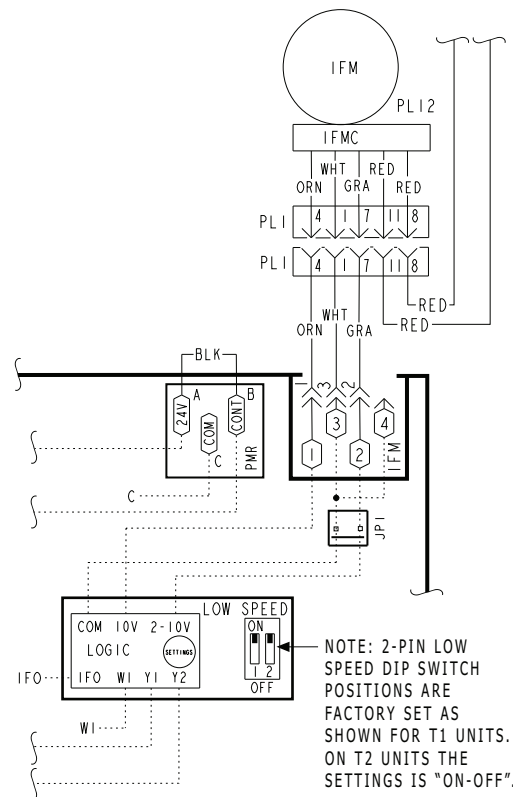

Fig. 10 — Supply Fan Control Wiring Diagram
8. Check for proper motor control voltage signal of 9.7 vdc to 10.3 vdc at IFM-1 and IFM-3 on Unit Control Board (UCB). (See Fig. 10.)